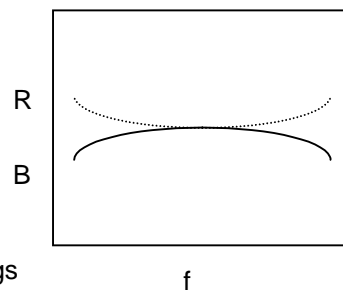

Fig. 10-9 The move of the R line and the B line by the revision VR, Coil, the slider.
- * The installation lie of each VR and slider is shown in the Fig. 10-8,and actuation is shown in the Fig.10-9.
When it was imported in the left viewed from the screen side, Demonstrated in Fig.10-9-c.
When it was imported in the right viewed from the screen side, Demonstrated in Fig.10-9-d.